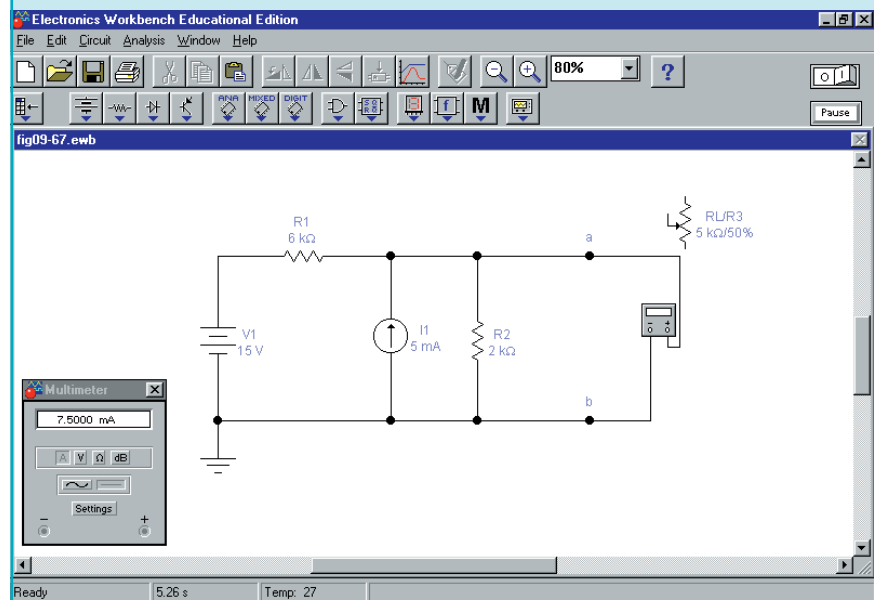

FIGURE 9-69
- c. With the multimeter between terminals *a* and *b*, the Norton current is easily measured by switching the multimeter to its ammeter range. After clicking on the power switch, we obtain a reading of $I_N = 7.50$ mA as shown in Figure 9-69.